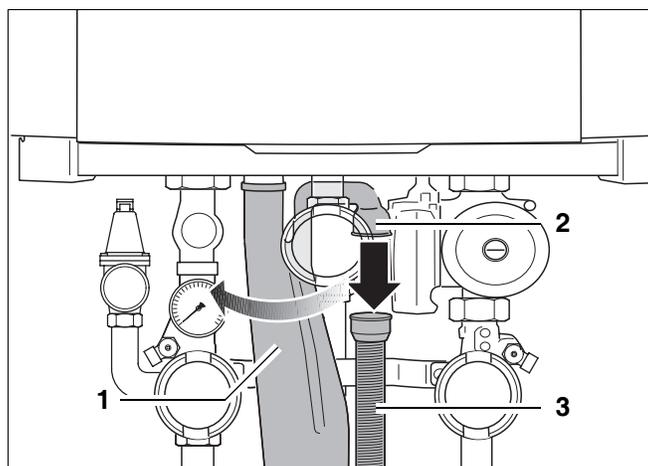

Fig. 89 Disconnecting the condensate trap hose
- Disconnect the condensate trap hose (fig. 89, pos. 3) and the rubber sleeve (fig. 89, pos. 2) from the condensate trap (fig. 89, pos. 1).
- Turn the condensate trap a quarter rotation counter-clockwise (fig. 89).